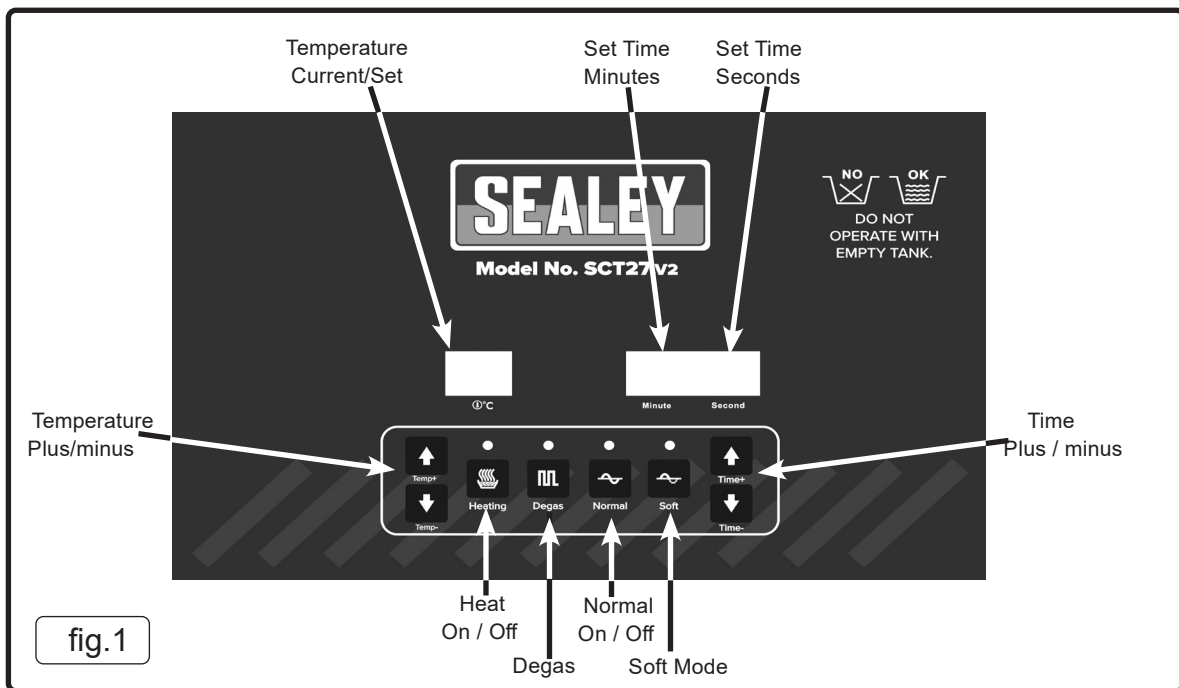

fig. 1
NOTE: Time is shown in minutes and seconds (fig.1). Maximum timer setting is 30 minutes.
6.5.1. After timer and temperature setting, press  'Normal' button, the Ultrasonic LED (fig.1) will turn on and the device will work in 'normal mode': continuously working with full ultrasonic power and countdown display.